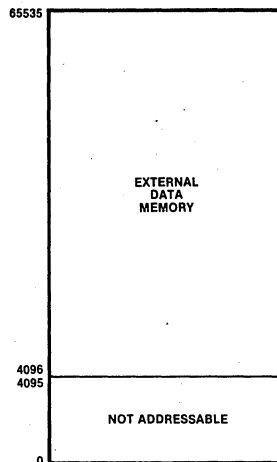

Figure 5. Data Memory Map
**Data Memory.** The Z86C11 can address 60K bytes of external data memory beginning at location 4096 (Figure 5). External data memory may be included with or separated from the external program memory space.  $\overline{DM}$ , an optional I/O function that can be programmed to appear on pin P34, is used to distinguish between data and program memory space.